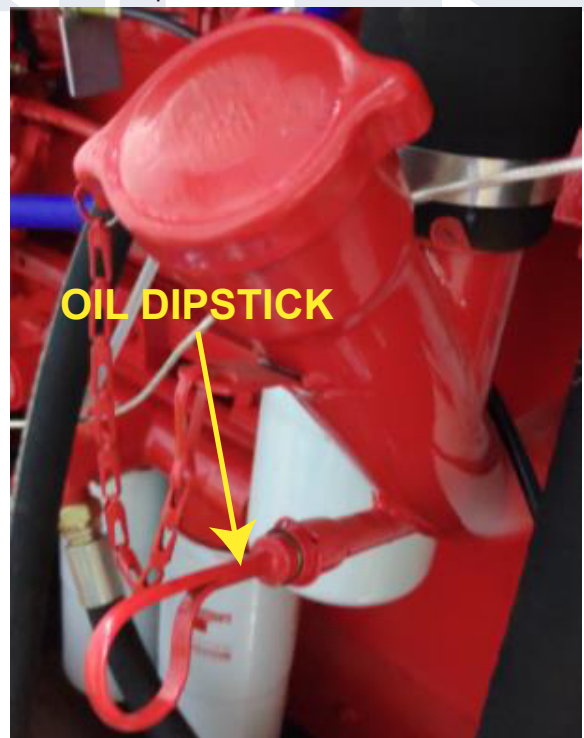

FIGURE 21 - OIL DIPSTICK
- Make sure the diesel engine has been shut-down for a minimum of five (5) minutes.
- Remove the dipstick. See FIGURE 21.